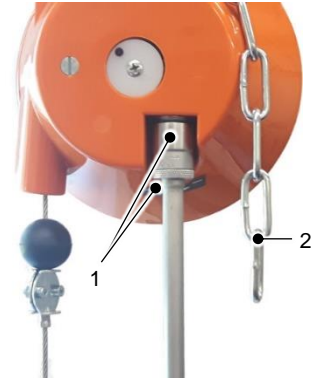

Fig. 5.3 – Fine-tuning of the spring balancer
The spring balancer is secured with a safety chain (2), see Fig. 5.3 *Fine-tuning of the spring balancer*. This must be secured in a fixed position independent of the suspension of the spring balancer.